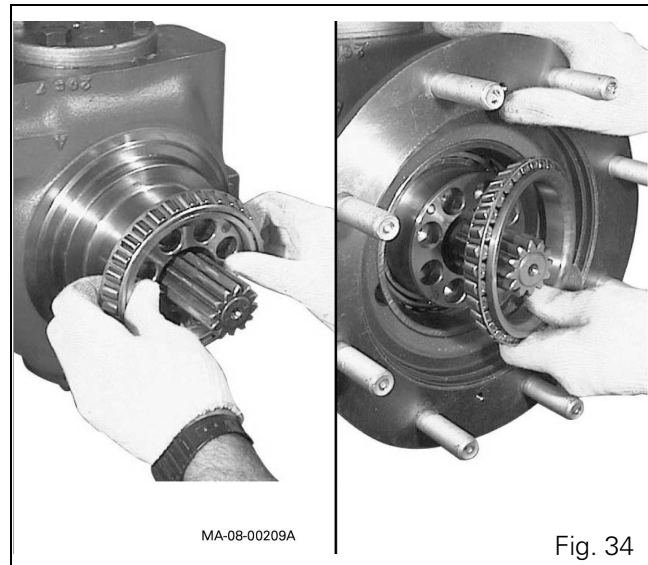

Fig. 34
**38.** Fit the bearing cone at the end of the swivel pin. Assemble the hub on the swivel pin and fit the second bearing cone (Fig. 34).